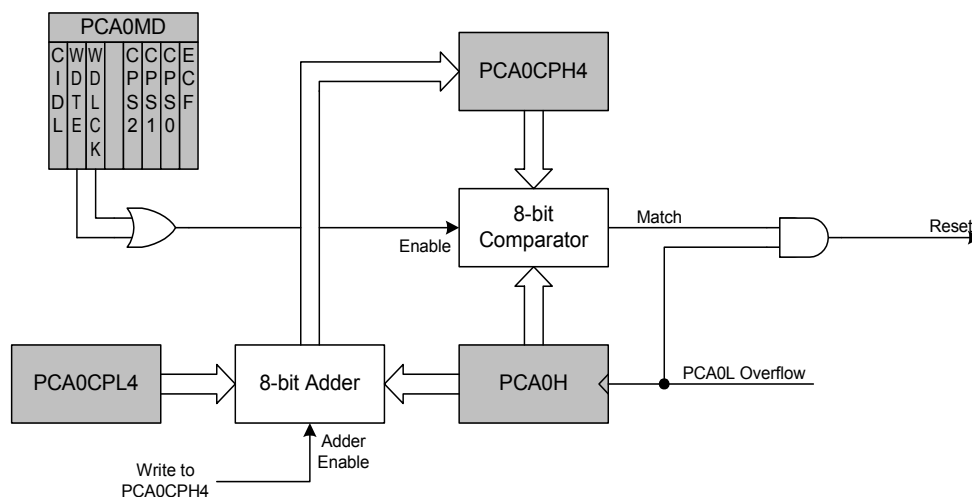

Figure 19.10. PCA Module 4 with Watchdog Timer Enabled
While the WDT is enabled, writes to the CR bit will not change the PCA counter state; the counter will run until the WDT is disabled. The PCA counter run control (CR) will read zero if the WDT is enabled but user software has not enabled the PCA counter. If a match occurs between PCA0CPH4 and PCA0H while the WDT is enabled, a reset will be generated. To prevent a WDT reset, the WDT may be updated with a write of any value to PCA0CPH4. Upon a PCA0CPH4 write, PCA0H plus the offset held in PCA0CPL4 is loaded into PCA0CPH4 (See Figure 19.10).